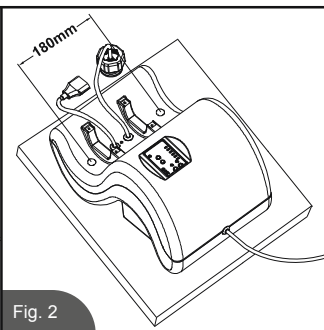

Fig. 2
2. The mounting holes are 6.4mm in diameter and spaced 180mm apart. Use two bolts and lock nuts with a maximum of 6.4mm in diameter. And then reinstall the electrolytic cell and other parts. (See Fig.2)